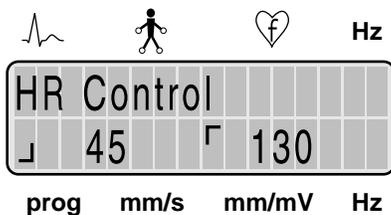

Figure 8-2. HR limit menu
- Keep pressing   until the display shown in Figure 8-2 appears.